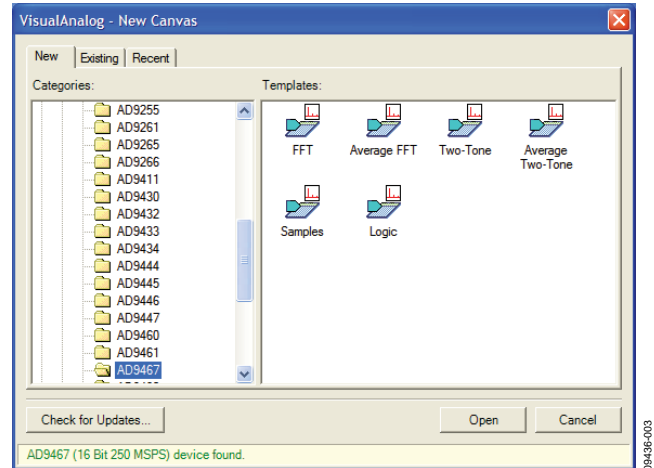

Figure 3. VisualAnalog, New Canvas Dialog Box
1. Open VisualAnalog® on a PC. AD9467 should be listed in the status bar of the **New Canvas** window. Select the template that corresponds to the type of testing to be performed (see Figure 3).